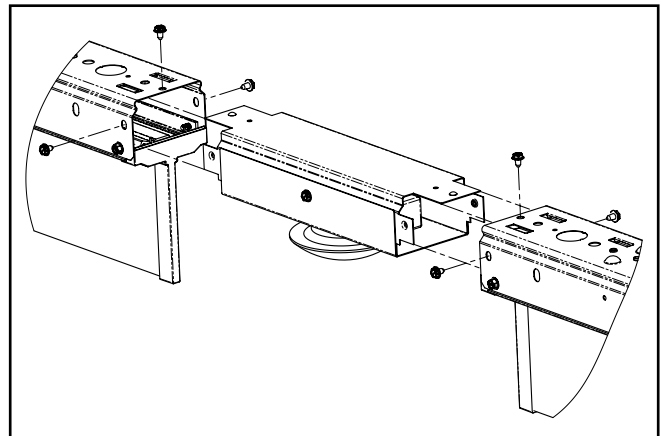

Figure 5.
4. Push the sensor housing in until the spherical emboss engages the hole on top of the channel and all the holes align (Figure 5). Repeat the procedure for the opposite side fixture.
5. Using the 4 screws previously removed from the end plates, secure the sensor housing through the same holes (Figures 5 & 6) on both fixtures.
6. Install the additional two screws provided with the housing through the top of the channel and into the tabs to further secure the tab into the alignment embosses (Figure 5).